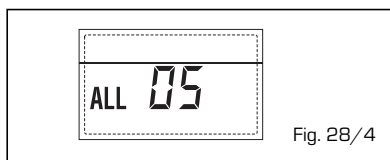

Fig. 28/4
**- BLOCCO FIAMMA "ALL 06" (fig. 28/5)**